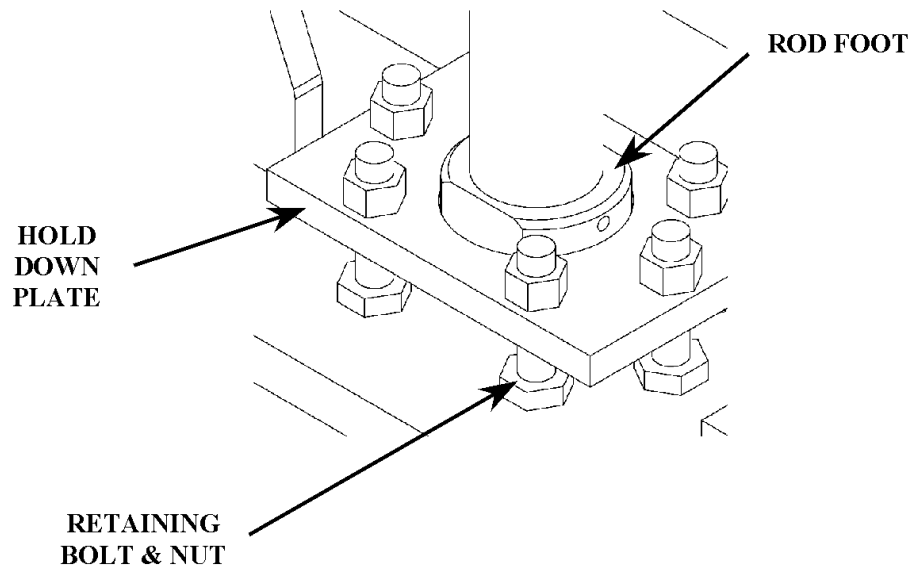

FIGURE 2 – retaining plate assembly where the cylinders connect to the top jaw
- The rod foot needs to be centered within the hold down plate. See figure 2.
4. A note on the hold down plate: Do not over tighten the nuts on the retaining bolts shown in figure 2. There may appear to be a gap between the rod foot and the top jaw beam. This is natural and desired. Only the cylinder shaft should be pushing against the top jaw, not the rod foot. The system is designed to allow the rod foot to adjust to any misalignment with the top jaw.